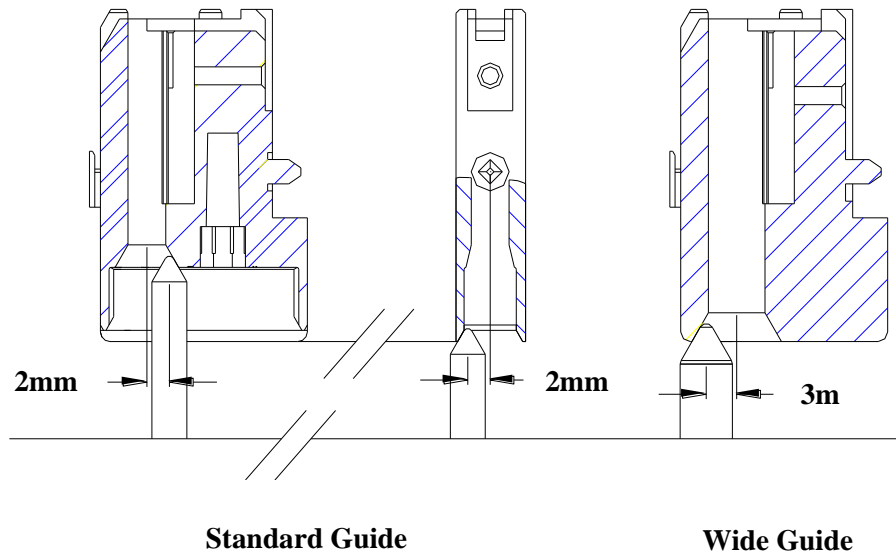

Figure 3: Standard and Wide Guide Gathering Ability
2.5.6 The Paladin guidance system is capable of gathering up to 2mm radial for the standard guide pin and 3 mm radial for the wide guide pin, see Figure 3.